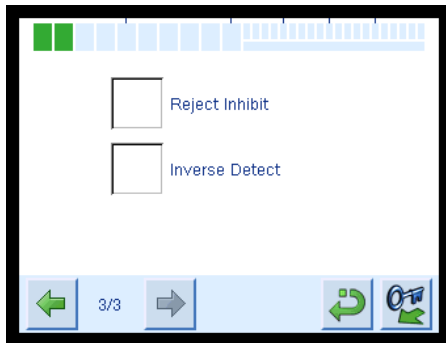

Figure 76:
2. When you have entered the appropriate product name and codes, press the **Right** Arrow key to move onto the next screen, Figure 76.